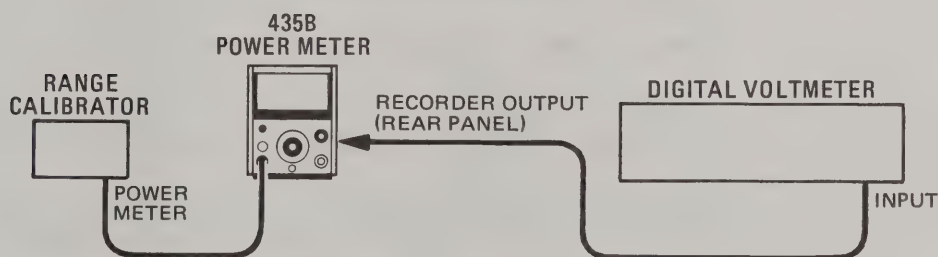

Figure 5-5. Power Meter Adjustment Setup with Calibrator
5. Remove the right side cover of the Power Meter, connect the equipment as shown in Figure 5-5 and set the LINE switch to ON.